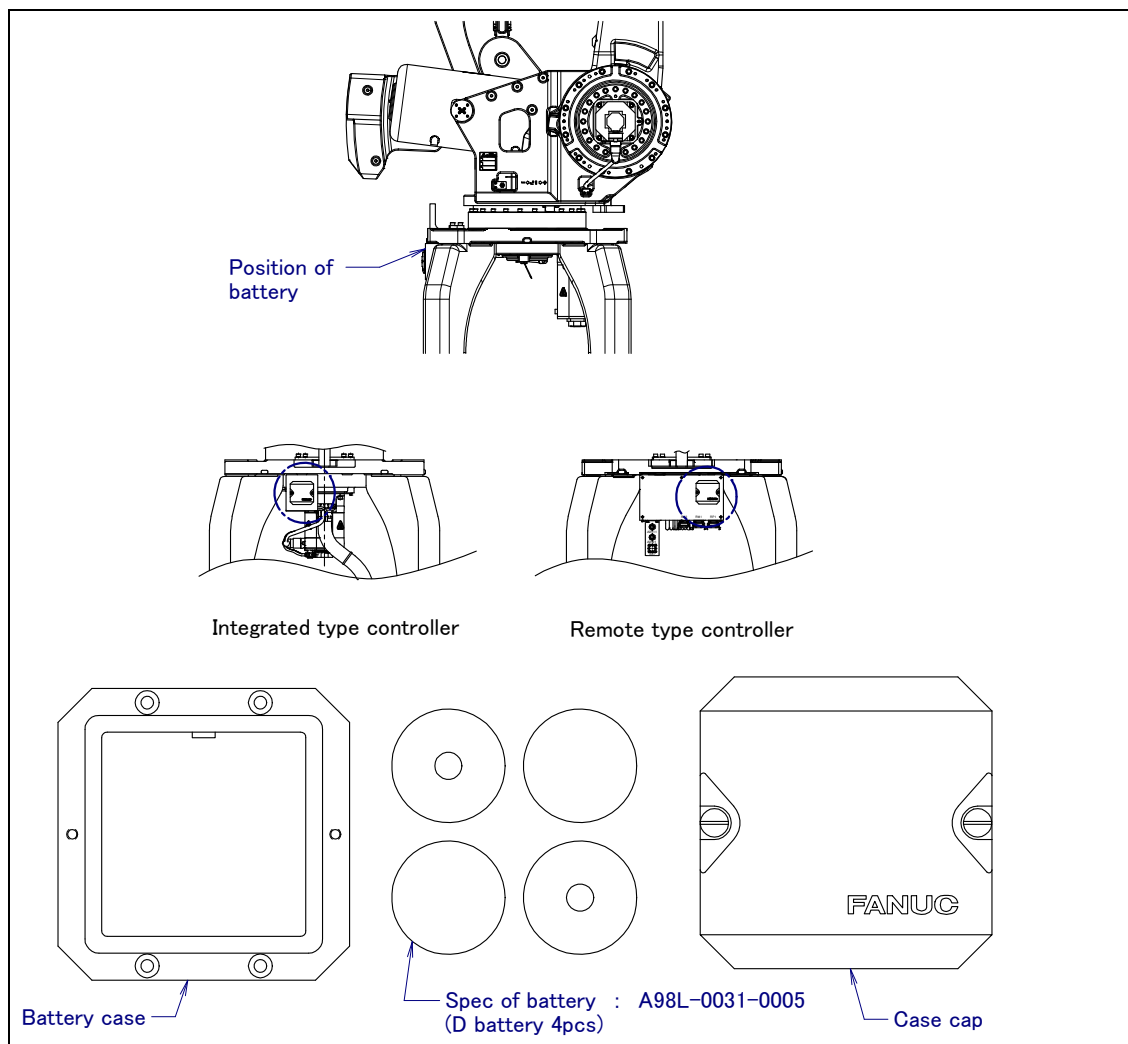

Fig.7.3.2 Replacing batteries
- 2 Remove the battery case cap. (Fig.7.3.2)